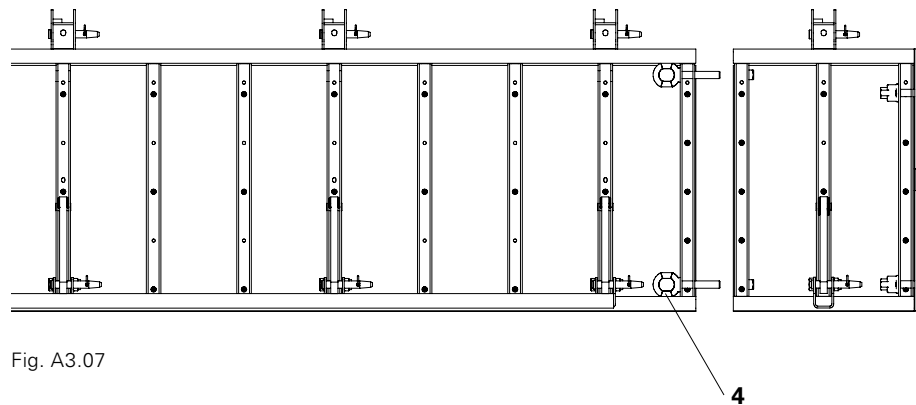

Fig. A3.07
2. Remove QUATTRO QB Bottom Plate (7) from the QUATTRO QES Column Element and re-attach to the bottom extension.
3. Fix to horizontal base element using eyebolts M20 x 110 (4). (Fig. A3.07)